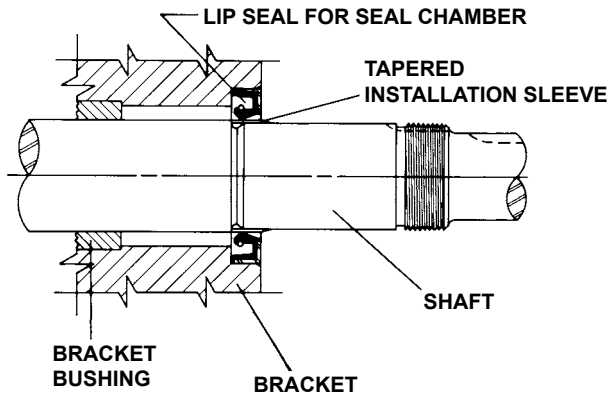

FIGURE 8
2. Install the lip seal in the bracket. **Refer to Figure 8, page 9.**